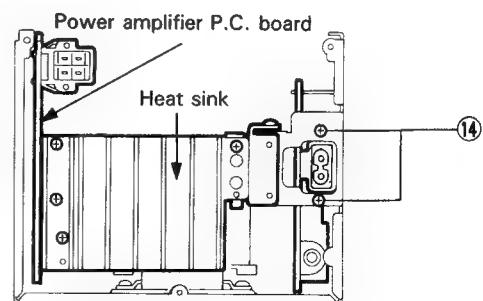

Fig. 7-15
3. Remove the two screws ⑯ retaining the power supply P.C. board (Refer to Fig. 7-15).